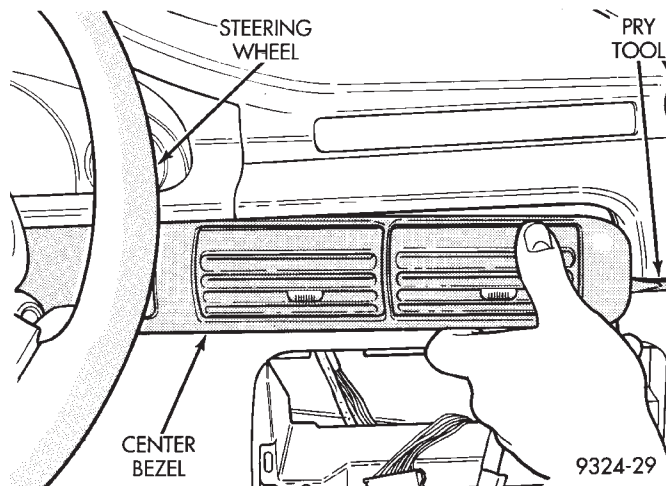

**Fig. 54 Center Bezel Removal**
(11) Remove the radio center bezel which is held in place by six clips. This can be done by carefully prying the bezel from the instrument panel.
(12) Remove the radio. Remove the heater A/C control head from the panel and place in a safe area.
(13) Remove the center instrument panel bezel (Fig. 54). This bezel is held in place by four clips. It can be removed by carefully prying it from the instrument panel.
(14) Remove center console from vehicle (if equipped).
(15) If the vehicle is equipped with a right side air bag, the glove box must be lowered. The glove box assembly can be lowered by pressing in on the sides of the glove box. This will release the glove box and allow access to air bag mounting screws. There are four screws located behind the glove box. Remove these screws and then close the glove box.
(16) Remove lower bolster retaining screws.
(17) Carefully lower the bolster and disconnect the trunk release and glove box light wiring. Then remove the lower bolster from the vehicle.